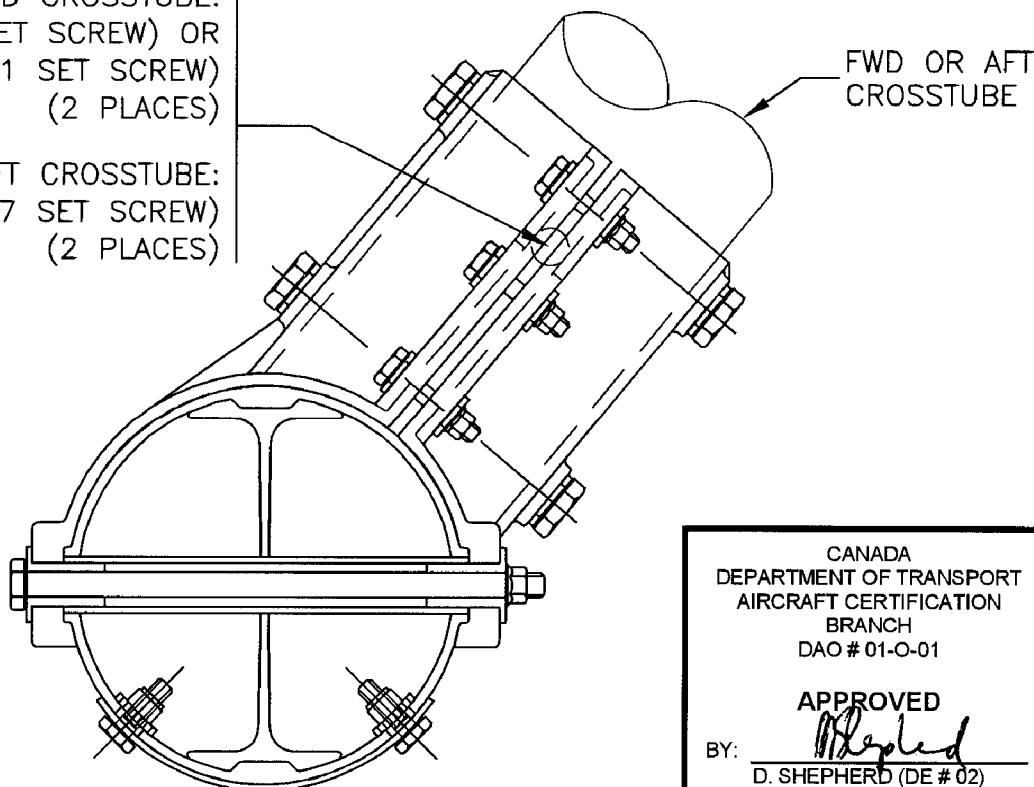

Figure 1 - Set Screw Option
If installing the Dart Skidtubes onto Bell/AAI crosstubes, install qty (2) D2747 (item 32) or qty (2) D3533-1 (item 33) set screws in the forward/aft holes of the forward crosstubes as required per Figure 1. Install qty (2) D2747 (item 32) set screws in the forward/aft holes of the aft crosstubes per Figure 1. Prime with zinc chromate primer and install wet.